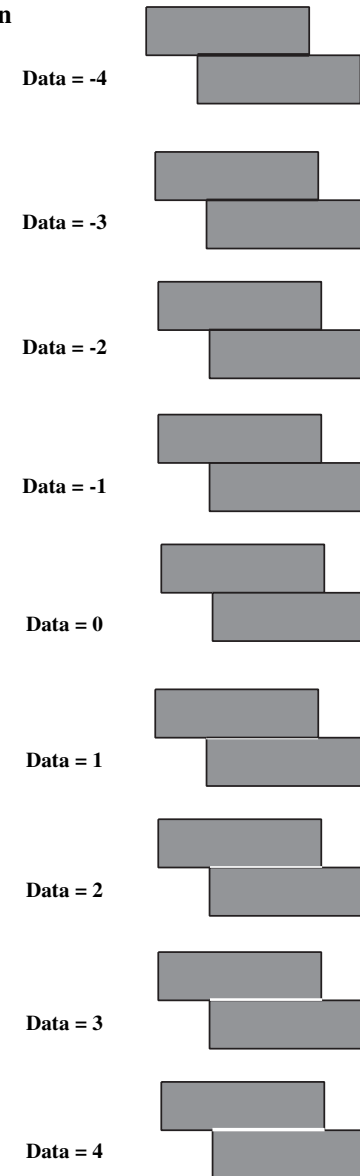

Figure 5-30. Screen Indication during PF Adjust Pattern Printing
6. A PF adjust pattern is made by 2 blocks. And you need to select most right one without white banding or black banding. Following is the printer condition for both white line and black banding. Among Figure 5-30 patterns, most right pattern is data "0", and you must input "0" in the following step.
8. By using up/down arrow key, change the present registered value to your actual confirmed value. (In case of Figure 5-30, change to "0", and press "O.K." button. Program screen changes as follows.
**NOTE:** Unlike Bi-D adjustment, you need not to recheck on the next printing pattern. Regardless of your input data, Figure 5-30 pattern will never be changed. (Fixed printing without offset.)
**NOTE:** If you do not understand which pattern is the most right pattern in Figure 5-30, you need to perform the head cleaning once to make the printer fire inks correctly.
**NOTE:** Unlike Bi-D adjustment, adjustable range is -4 to +4 only. And if cannot see good pattern in Figure 5-30, you need to recheck the part that you've disassembled/re-assembled whether all units are working correctly or not.